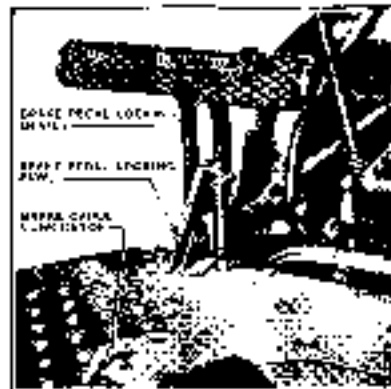

Figure 8
8. Do not run the tractor downhill with the gears in neutral or with the clutch released. Engage either first or second gear and use the governor or throttle lever to control the speed of the engine. To bring the tractor to a complete stop, declutch and apply the hand brake. It is good practice to hit the pawl from the ratchet when pulling "on" the handbrake as this saves wear on these parts. When the footbrake pedals are fitted the tractor wheels may be locked by first engaging the latch which locks both pedals together and then pressing down the pedals to apply the brakes. When firmly applied, engage the pawl which will then enter one of the serrations of the sector (see also page 20 and Fig. 8).